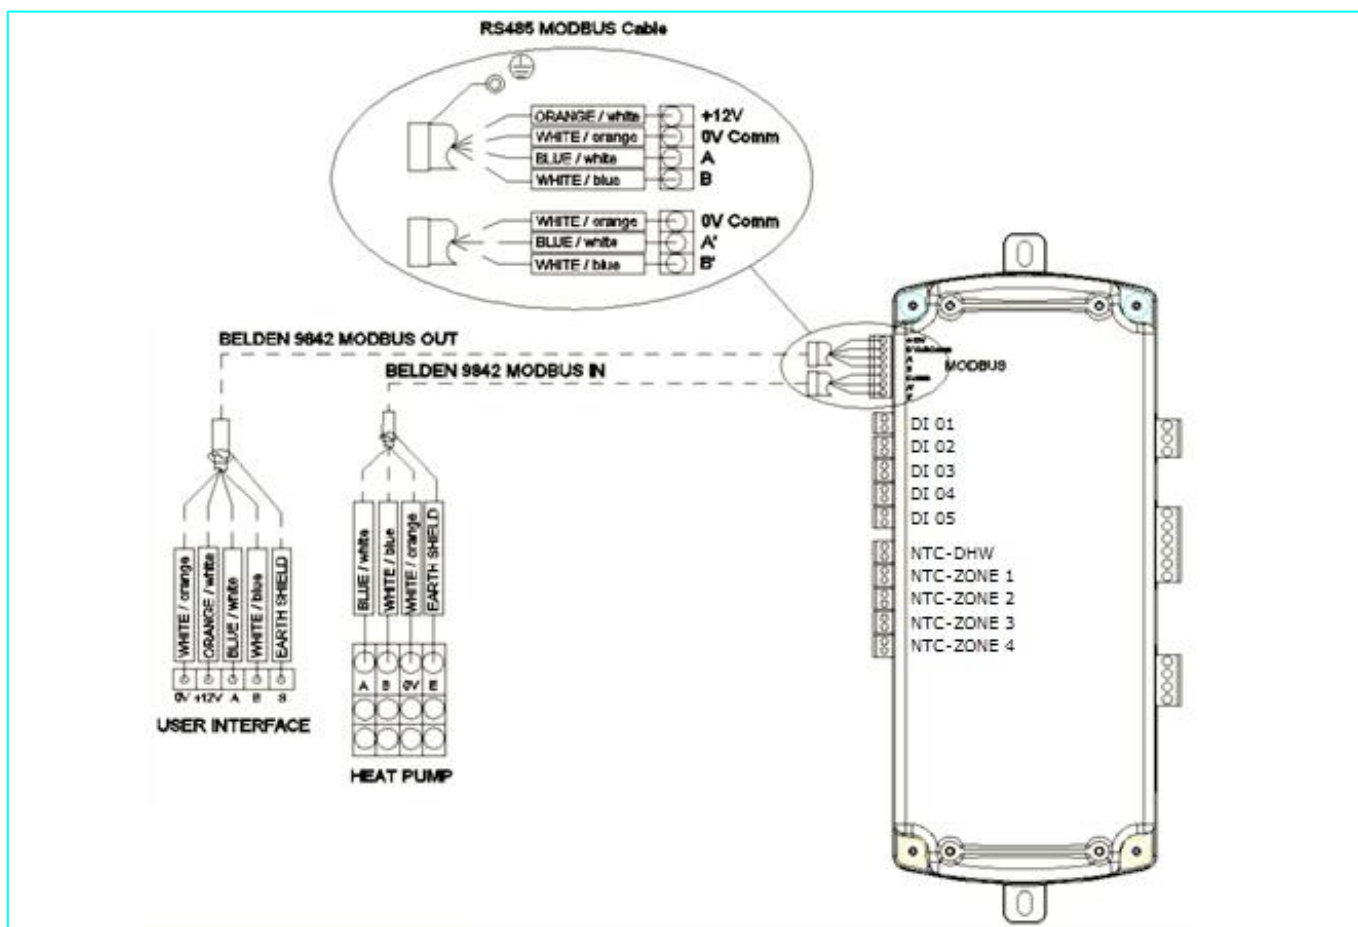

Figure 9: Modbus Communication Connections
- Modbus connection, 5.8.2. The communication cable between the cylinder and heat pump must be installed. See Figure 9.
Correct installation of the Modbus connections is critical for communication between the heat pump, UI and the cylinder. Figure 9 illustrates how these connections must be made. The modbus wire must be specified to BELDEN 9842. The maximum allowable network length is 100m.